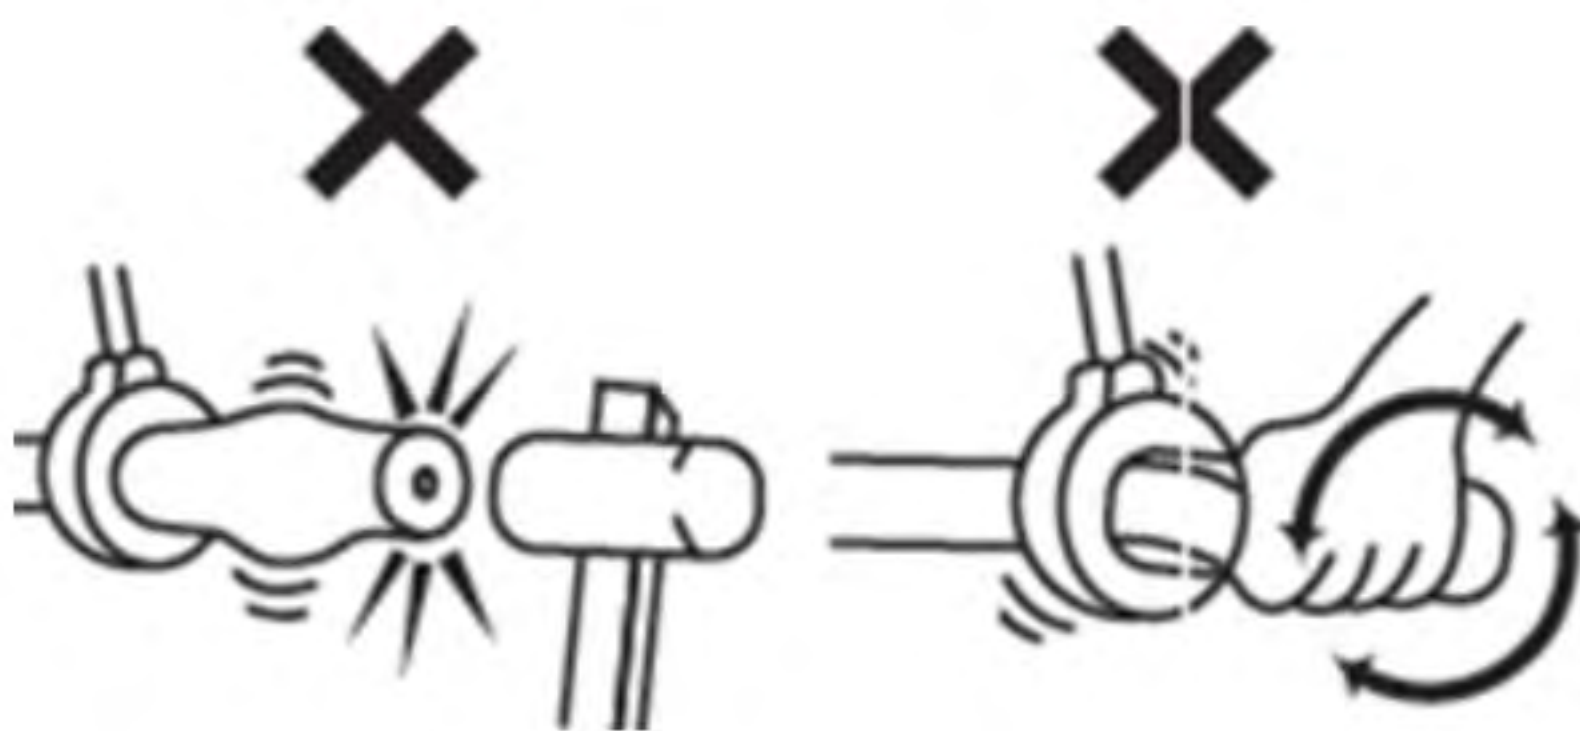

Fig. 4
- Do not twist the heated grips to insert them (Figure 4), as this may deform the grip and damage its heating element.